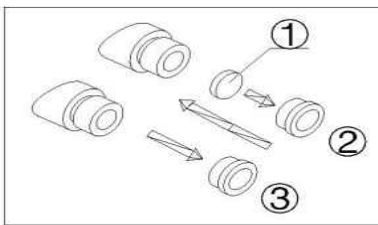

Fig.5
1) Turn and remove the mounting ring② from the eyepiece. (Fig.5)
2) Clean the eyepiece micrometer① and mount it to the mounting ring with the inscription side downward.
3) Gently twist the mounting ring with the eyepiece micrometer into the eyepiece till tightening② securely.
4) To remove the eyepiece micrometer, take down the mounting ring③ by twisting and take out of the micrometer, and then wrap it.